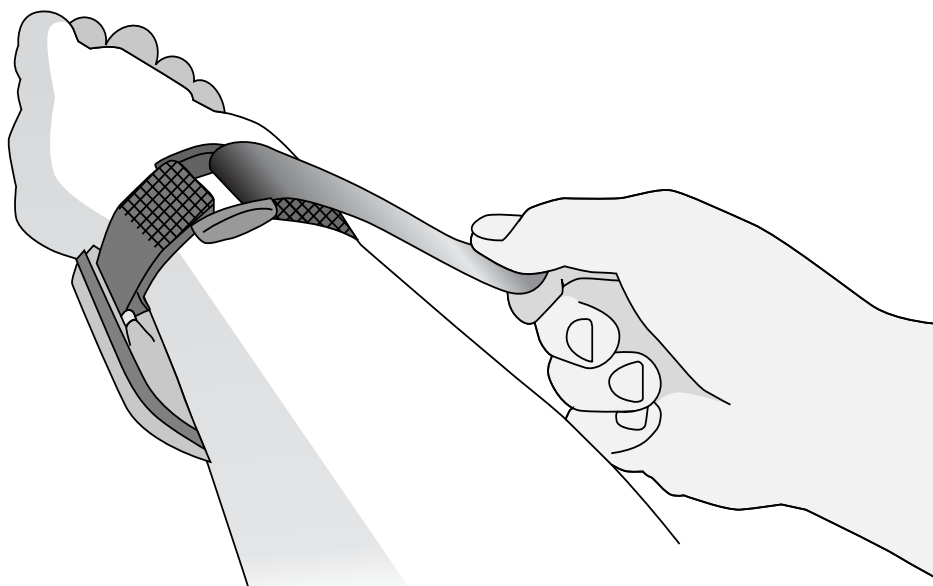
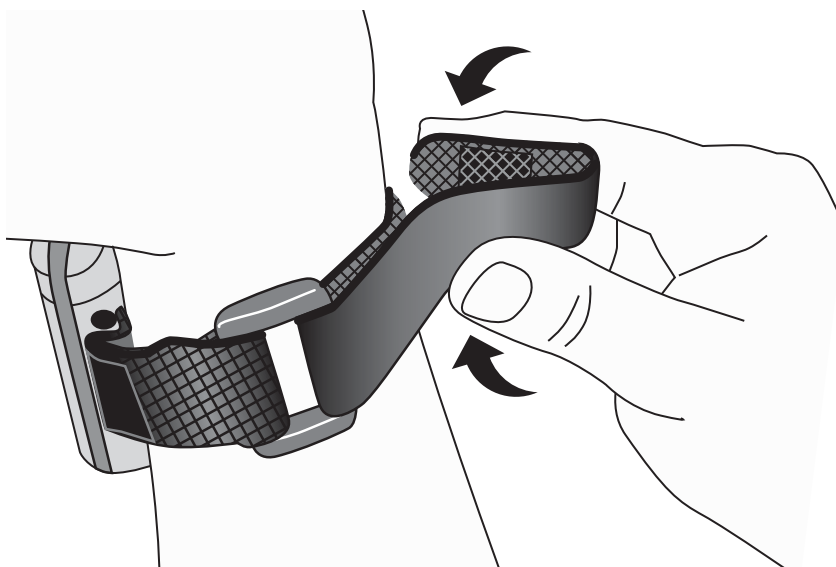
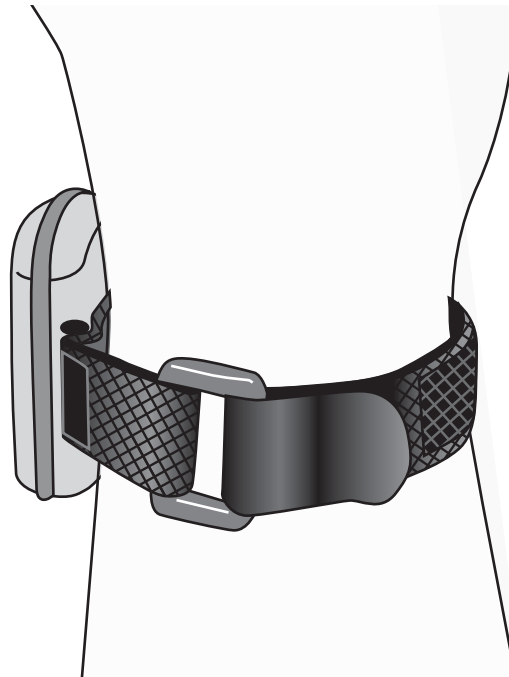

Figure 12: Fasten Wristband
Figure 13: Using the Rectangle Fastener
Figure 14: Using the Square Fastener
4. Fold the wristband back over the plastic ring (figure 12) and attach the fastener to the wristband (figure 13 or figure 14). Wrist circumference will determine which fastener is used.
NOTE: When using the rectangle fastener, the end of the wristband can be shortened. To do so, fold the end of the wristband so the square fastener attaches onto the wristband (figure 13).